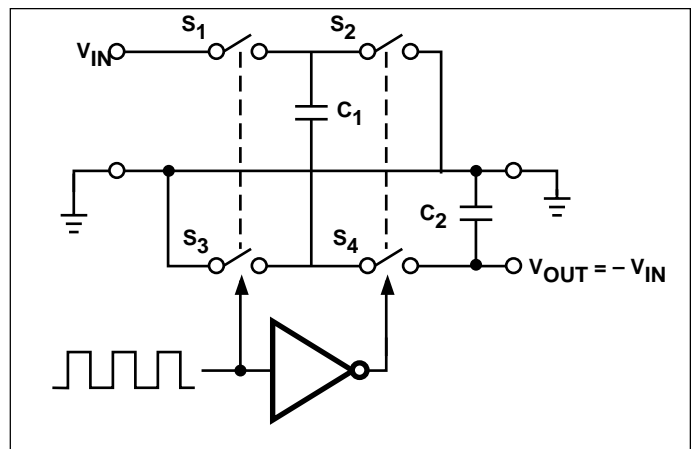
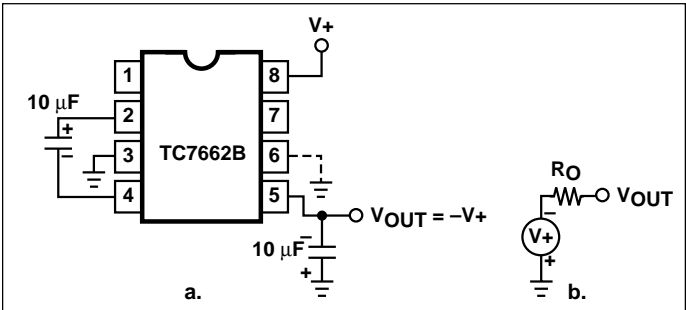
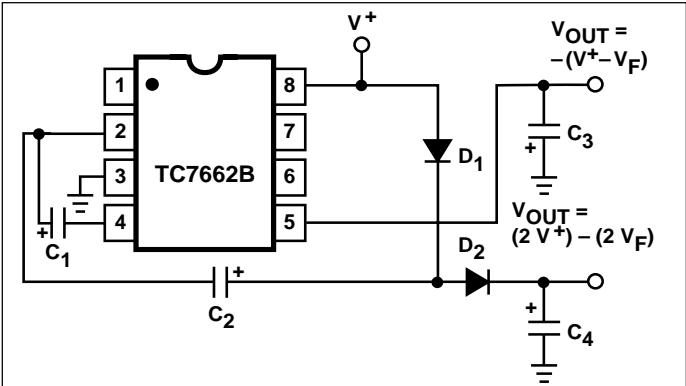

Figure 2. Idealized Negative Voltage Capacitor
Figure 3. Simple Negative Converter and its Output Equivalent
Figure 10. Combined Negative Converter and Positive Doubler
ELECTRICAL CHARACTERISTICS: V+ = 5V, T_A = +25°C, OSC = Free running, Test Circuit Figure 2, Unless Otherwise Specified.
The TC7662B contains all the necessary circuitry to complete a negative voltage converter, with the exception of two external capacitors which may be inexpensive 1 μ F polarized electrolytic types. The mode of operation of the device may be best understood by considering Figure 2, which shows an idealized negative voltage converter. Capacitor C₁ is charged to a voltage V⁺ for the half cycle when switches S₁ and S₃ are closed. (Note: Switches S₂ and S₄ are open during this half cycle.) During the second half cycle of operation, switches S₂ and S₄ are closed, with S₁ and S₃ open, thereby shifting capacitor C₁ negatively by V⁺ volts. Charge is then transferred from C₁ to C₂ such that the voltage on C₂ is exactly V⁺, assuming ideal switches and no load on C₂. The TC7662B approaches this ideal situation more closely than existing non-mechanical circuits.
In the TC7662B, the four switches of Figure 2 are MOS power switches; S₁ is a P-channel device and S₂, S₃ and S₄ are N-channel devices. The main difficulty with this approach is that in integrating the switches, the substrates of S₃ and S₄ must always remain reverse biased with respect to their sources, but not so much as to degrade their "ON" resistances. In addition, at circuit start up, and under output short circuit conditions (V_{OUT} = V⁺), the output voltage must be sensed and the substrate bias adjusted accordingly. Failure to accomplish this would result in high power losses and probable device latchup.
where V₁ and V₂ are the voltages on C₁ during the pump and transfer cycles. If the impedances of C₁ and C₂ are relatively high at the pump frequency (refer to Figure 2) compared to the value of R_L, there will be a substantial difference in voltages V₁ and V₂. Therefore, it is desirable not only to make C₂ as large as possible to eliminate output voltage ripple, but also to employ a correspondingly large value for C₁ in order to achieve maximum efficiency of operation.
The majority of applications will undoubtedly utilize the TC7662B for generation of negative supply voltages. Figure 3 shows typical connections to provide a negative supply where a positive supply of +1.5V to +15V is available. Keep in mind that pin 6 (LV) is tied to the supply negative (GND) for supply voltages below 3.5 volts.
The output characteristics of the circuit in Figure 3 can be approximated by an ideal voltage source in series with a resistance as shown in Figure 3b. The voltage source has a value of -(V+). The output impedance (R_O) is a function of the ON resistance of the internal MOS switches (shown in Figure 2), the switching frequency, the value of C₁ and C₂, and the ESR (equivalent series resistance) of C₁ and C₂. A good first order approximation for R_O is:
Figure 10 combines the functions shown in Figures 3 and 9 to provide negative voltage conversion and positive voltage doubling simultaneously. This approach would be, for example, suitable for generating +9V and -5V from an existing +5V supply. In this instance, capacitors C_1 and C_3 perform the pump and reservoir functions, respectively, for the generation of the negative voltage, while capacitors C_2 and C_4 are pump and reservoir, respectively, for the doubled positive voltage. There is a penalty in this configuration which combines both functions, however, in that the source impedances of the generated supplies will be somewhat higher due to the finite impedance of the common charge pump driver at pin 2 of the device.